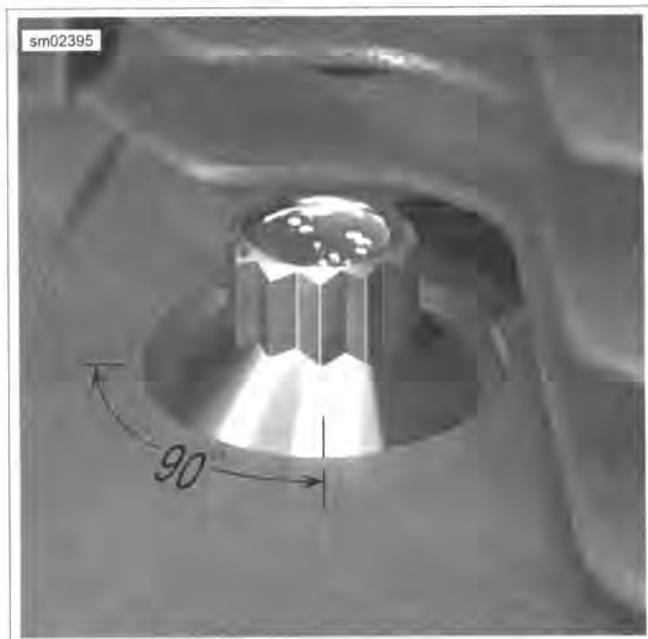

Figure 3-76. Final Tightening for Cylinder Head Bolts
6. See Figure 3-76. Final-tighten each bolt an additional 90 degrees (90 degrees) in the same sequence. For best